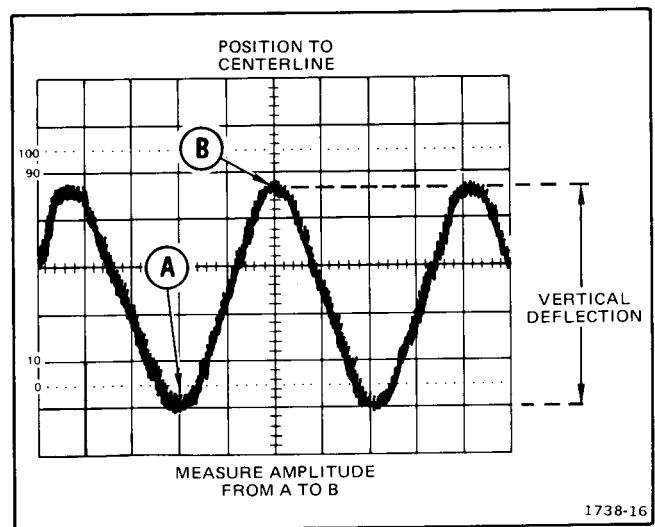

Figure 4-2. Peak-to-peak waveform voltage.
6. Vertically position the display so that the negative peak of the waveform coincides with one of the horizontal graticule lines (see Figure 4-2, Point A).
7. Horizontally position the display so that one of the positive peaks coincides with the center vertical graticule line (see Figure 4-2, Point B).
8. Measure the vertical deflection from peak to peak (see Figure 4-2, Point A to Point B).
EXAMPLE: The measured peak-to-peak vertical deflection is 4.6 divisions (see Figure 4-2) with a VOLTS/DIV switch setting of 0.5, using a 10X probe.